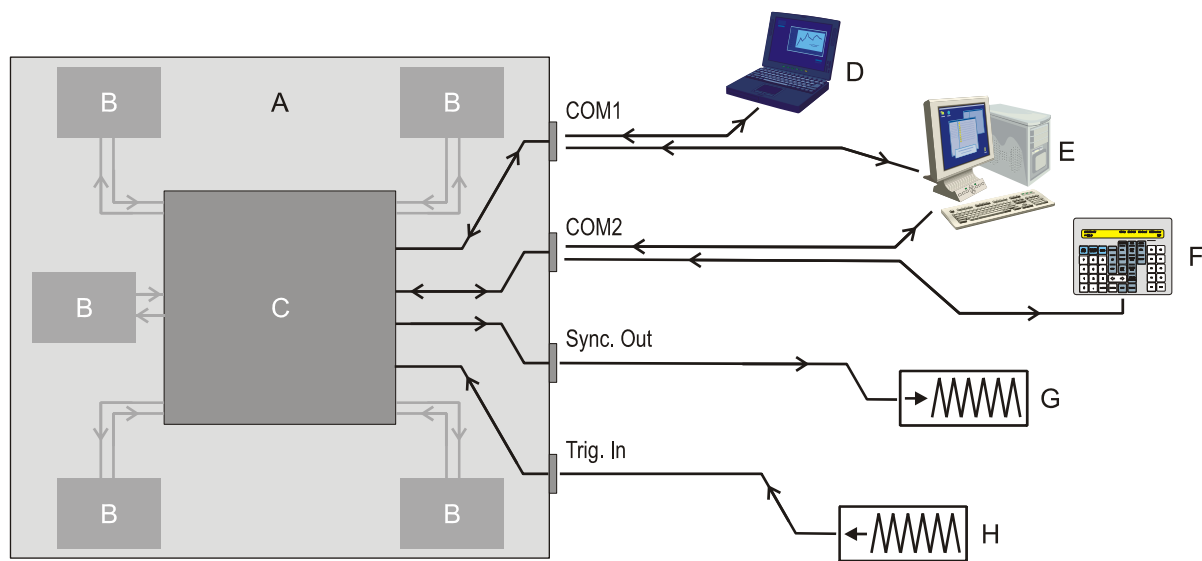

Figure 1: External interfaces and control structure
The COMPexPro (see Figure 1, A) is controlled through a central laser control board (C) that directly communicates with the system's various controllable modules and components (B) such as the HV power supply, energy monitor, trigger board, solenoid valves and ventilators. Depending on the address, communication occurs through 24 V control signals or optically through fiber optic lightwave guides.
Key to Figure 1